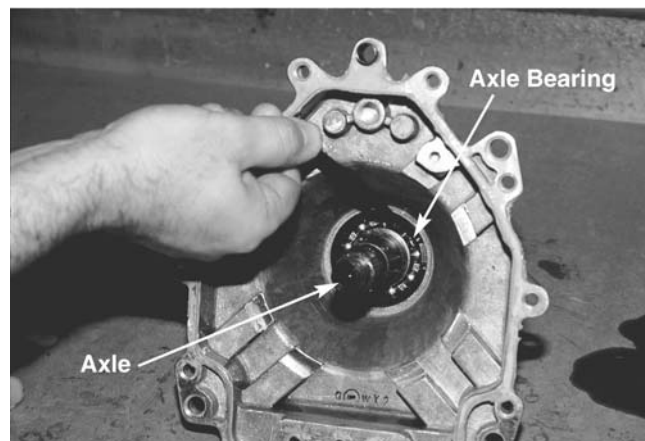

Figure 10-53
13. The axle bearing is placed into the housing and is held by a snap ring that is used to keep the bearing in place under load. The axle is pressed through the bearing and is held in place by a smaller snap ring. See Figure 10-53.